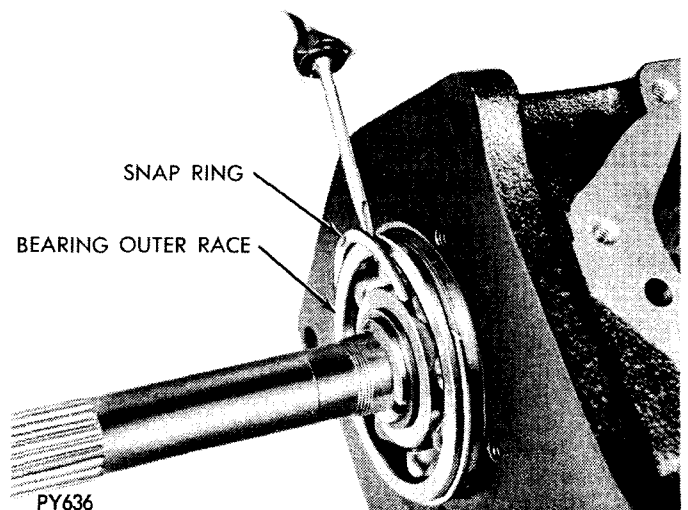

Fig. 11—Removing Pinion Gear Bearing Snap Ring
(2) Lower countershaft gear to bottom of case to permit removal of main drive pinion.
(3) Remove snap ring from pinion bearing outer race (Fig. 11).